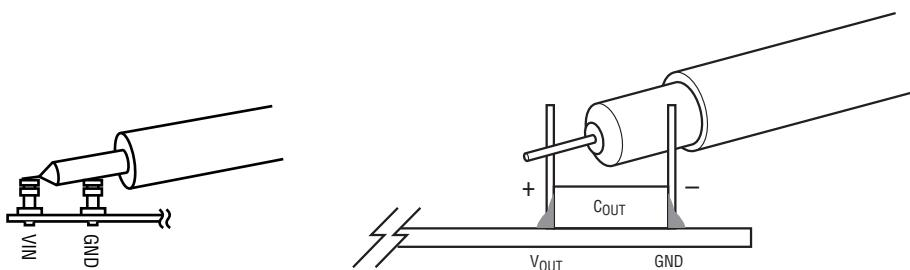

Figure 2. Measuring Input or Output Ripple Across Terminals or Directly Across Bulk Capacitor
**NOTE:** When measuring the input or output voltage ripple, care must be taken to avoid a long ground lead on the oscilloscope probe. Measure the input or output voltage ripple by touching the probe tip directly across the  $V_{IN}$  or  $V_{OUT}$  and GND terminals or directly across relevant capacitor. See Figure 2 for proper scope probe technique.